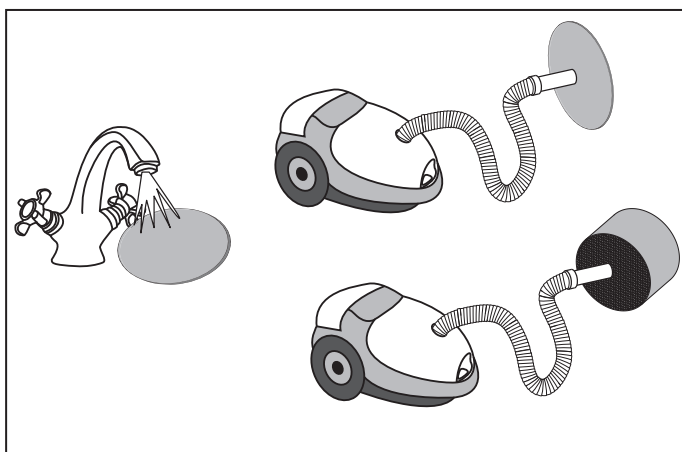

Fig. 24. Cleaning of the filters and the regenerator
- Clean the filters as often as required, but at least once in three months. To clean the filters flush those under running water or use a vacuum cleaner, fig. 24 Let the filters dry and install the dry filters inside the air duct.